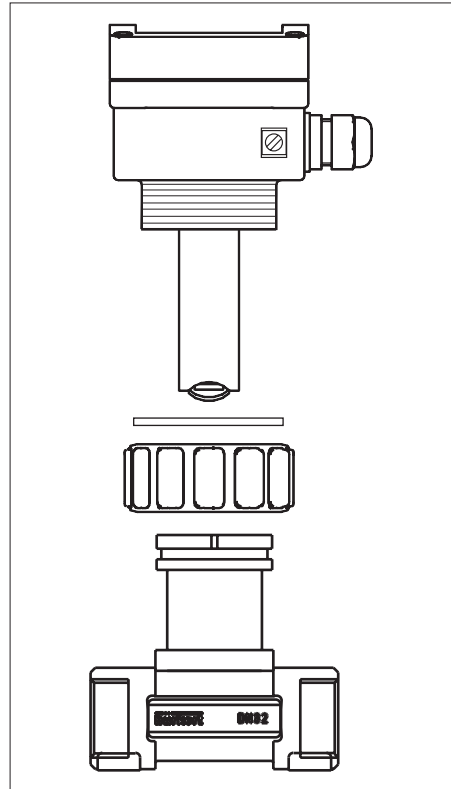

Fig. 3.2 Installation of 8025 compact
#### Compact version (see fig. 3.2)
**For EMC purposes, the earth must be connected via the earth lug on the side of the enclosure (see fig. 3.2). This point must be connected locally to a good earth.**